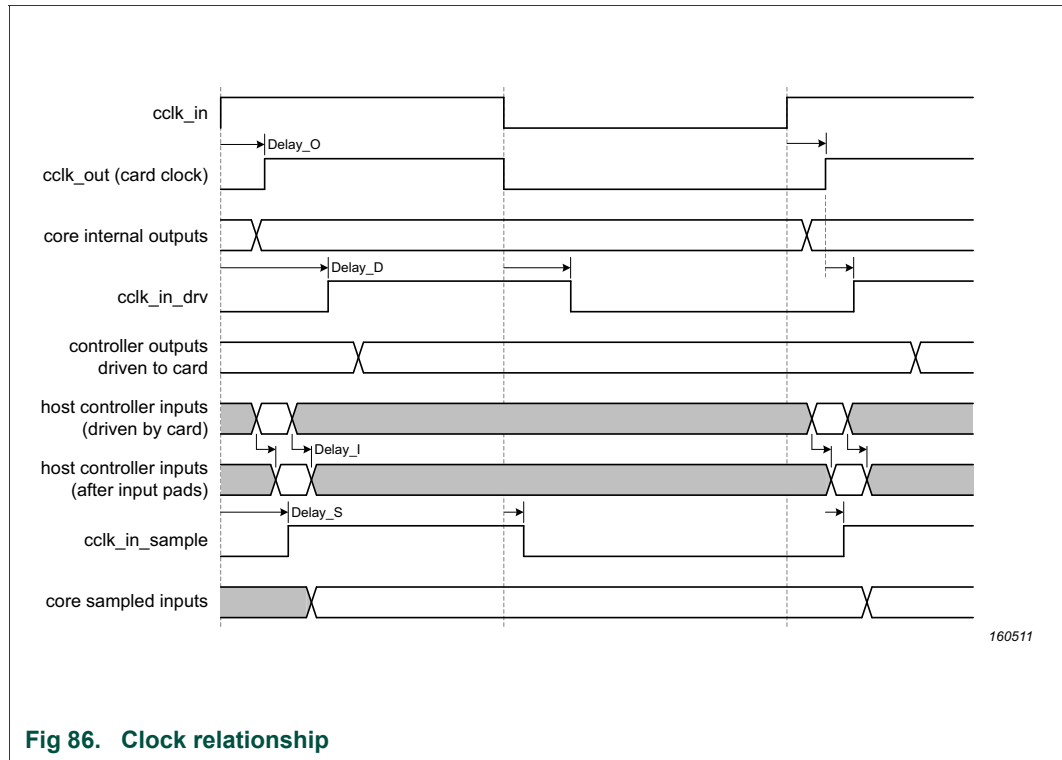
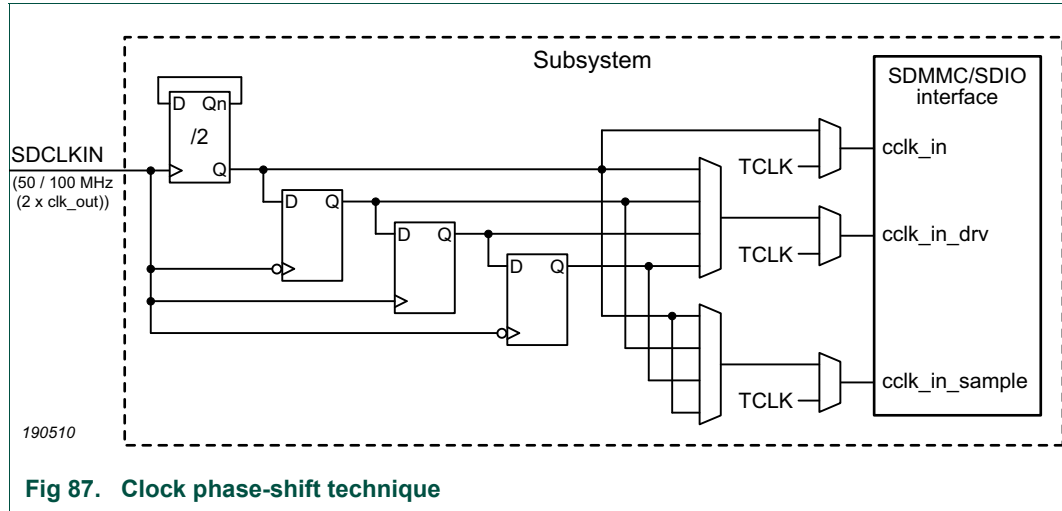

Fig 86. Clock relationship
Fig 87. Clock phase-shift technique
Figure 86 illustrates relationships for these delays. Figure 87 shows the relationships between cclk_in, cclk_out, cclk_in_sample, and cclk_in_drv.
- Figure 87 The cclk_in_drv and cclk_in_sample clocks are phase-shifted versions of cclk_in. The value of the phase shift should be selectable, based on the speed modes. The phase shift can have a resolution of 90° or 45° with respect to the cclk_in clock period—the higher the resolution, the better it is. All clocks have a 50% duty cycle.